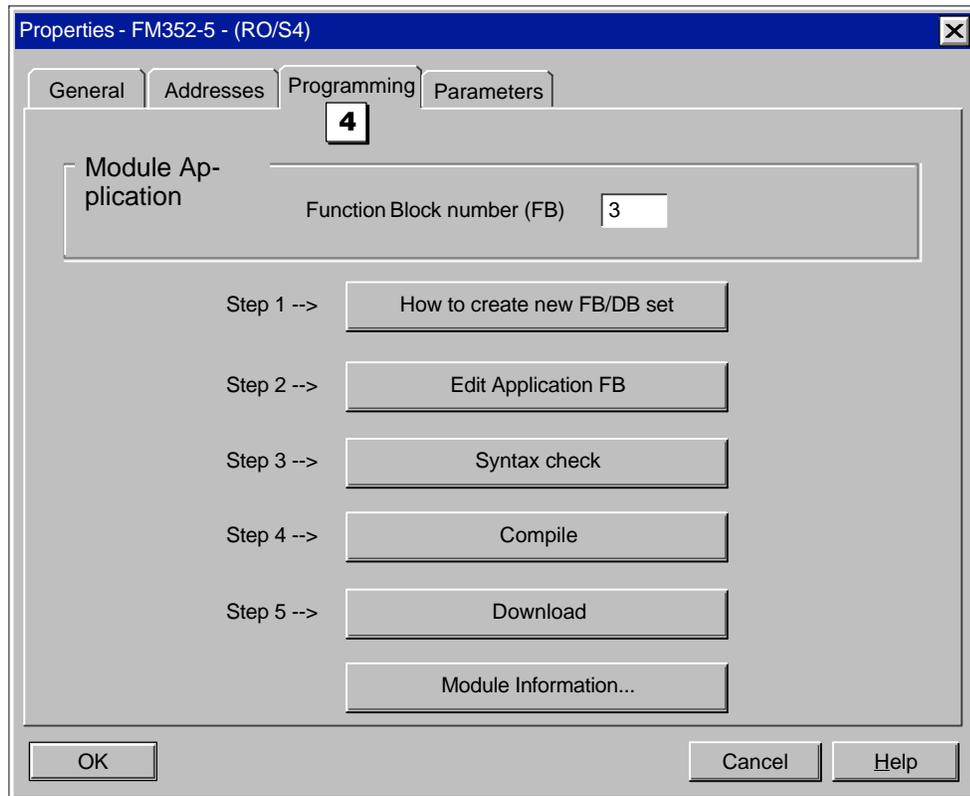

Figure 5-8 FM 352-5 Properties Dialog, Programming Tab
- 4 The Programming tab of the FM 352-5 Properties dialog, shown in Figure 5-8, provides the interface to the programming environment of the FM 352-5. Use the fields and buttons as described below.